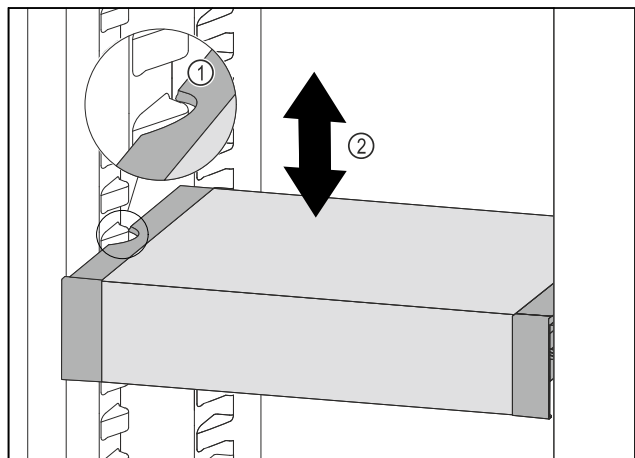

Fig. 194
- Pull VarioSafe forwards until the recesses in the side of the VarioSafe are at the level of the support rib in the refrigerator compartment. Fig. 194 (1)
- Move VarioSafe up or down in the refrigerator compartment until the desired height is reached. *Fig. 194 (2)*